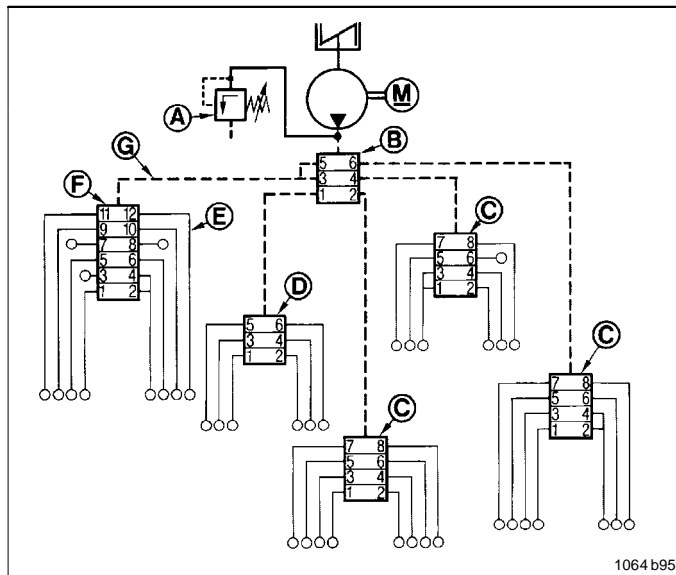

Fig. 30 Example of a lubrication system
- ➔ Loosen all high pressure hose connections G one after the other from the main metering device B (fig. 30) leading to the secondary metering devices. If f. ex. grease or oil emerges under pressure from outlet 1 of main metering device B, the blockage will be found in the lubrication circuit of the secondary metering device D.